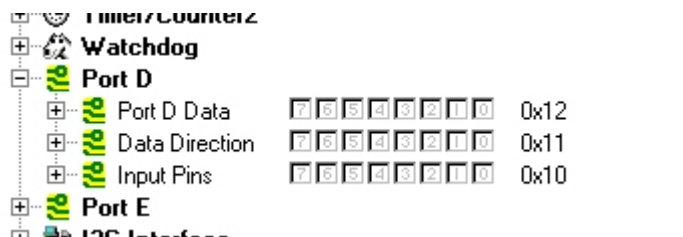

Figure 6: PORTD
2. How is PORTD configured? Use **Figure 6** to show your answer.